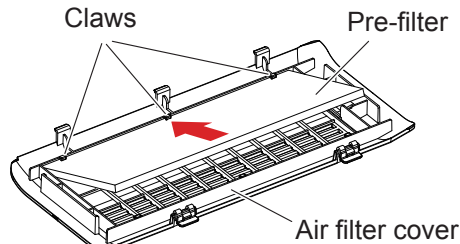
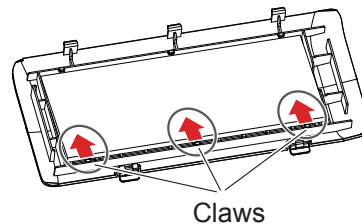

Fig. 1
Fig. 2
- Put the pre-filter into the claws (3 places) on one side of the air filter cover (Fig. 1), and then push each portion slowly in the direction of the arrows into the claws (3 places) on the other side (Fig. 2). Please make sure that there is no damage or deformation at the contact areas of the pre-filter with the claws when attaching it.